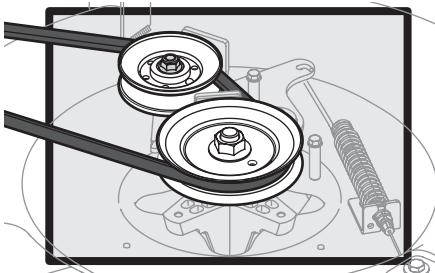

Figure 22
- Clean the top of the mower deck, under the spindle covers and belt area. See Figure 22.
- Clean around and near the transmission, axle and the fan area. See Figure 22.